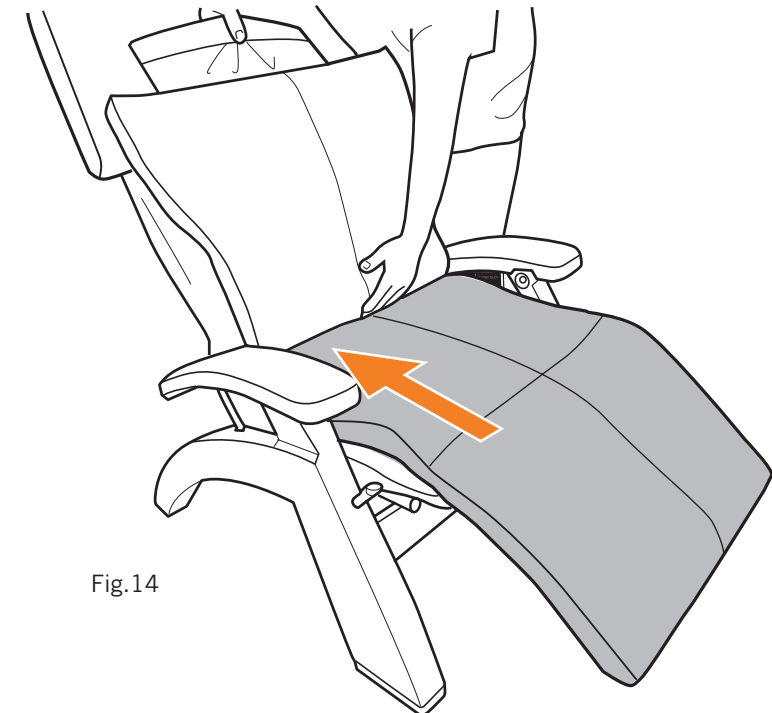

Fig.14
2. Lift up on the body pad to detach the seat hook and loop fasteners, pull it firmly up toward the seat, then press firmly down on the seat and leg area to secure it (Fig.14).